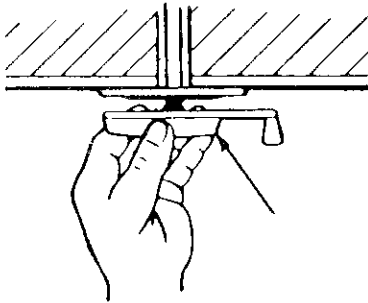

FIG. 4
2. When antenna is fully raised TURN CRANK IN OPPOSITE DIRECTION AT LEAST HALF A TURN BEFORE PUSHING IT UP WHILE STILL TURNING SLIGHTLY. See Fig. 4. This will engage the rotate pin.
3. Hold crank as in Fig. 4 and turn it fully COUNTER-CLOCKWISE to the stop. Then return it CLOCKWISE to the stop. If the installation has been correct, the antenna will now be "in-line" and ready for lowering.